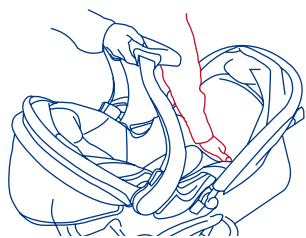

Fig. 16
- To remove the Infant Car Seat, squeeze the release handle located at the foot-end of the seat and carefully lift upward on the seat. (Fig. 16)